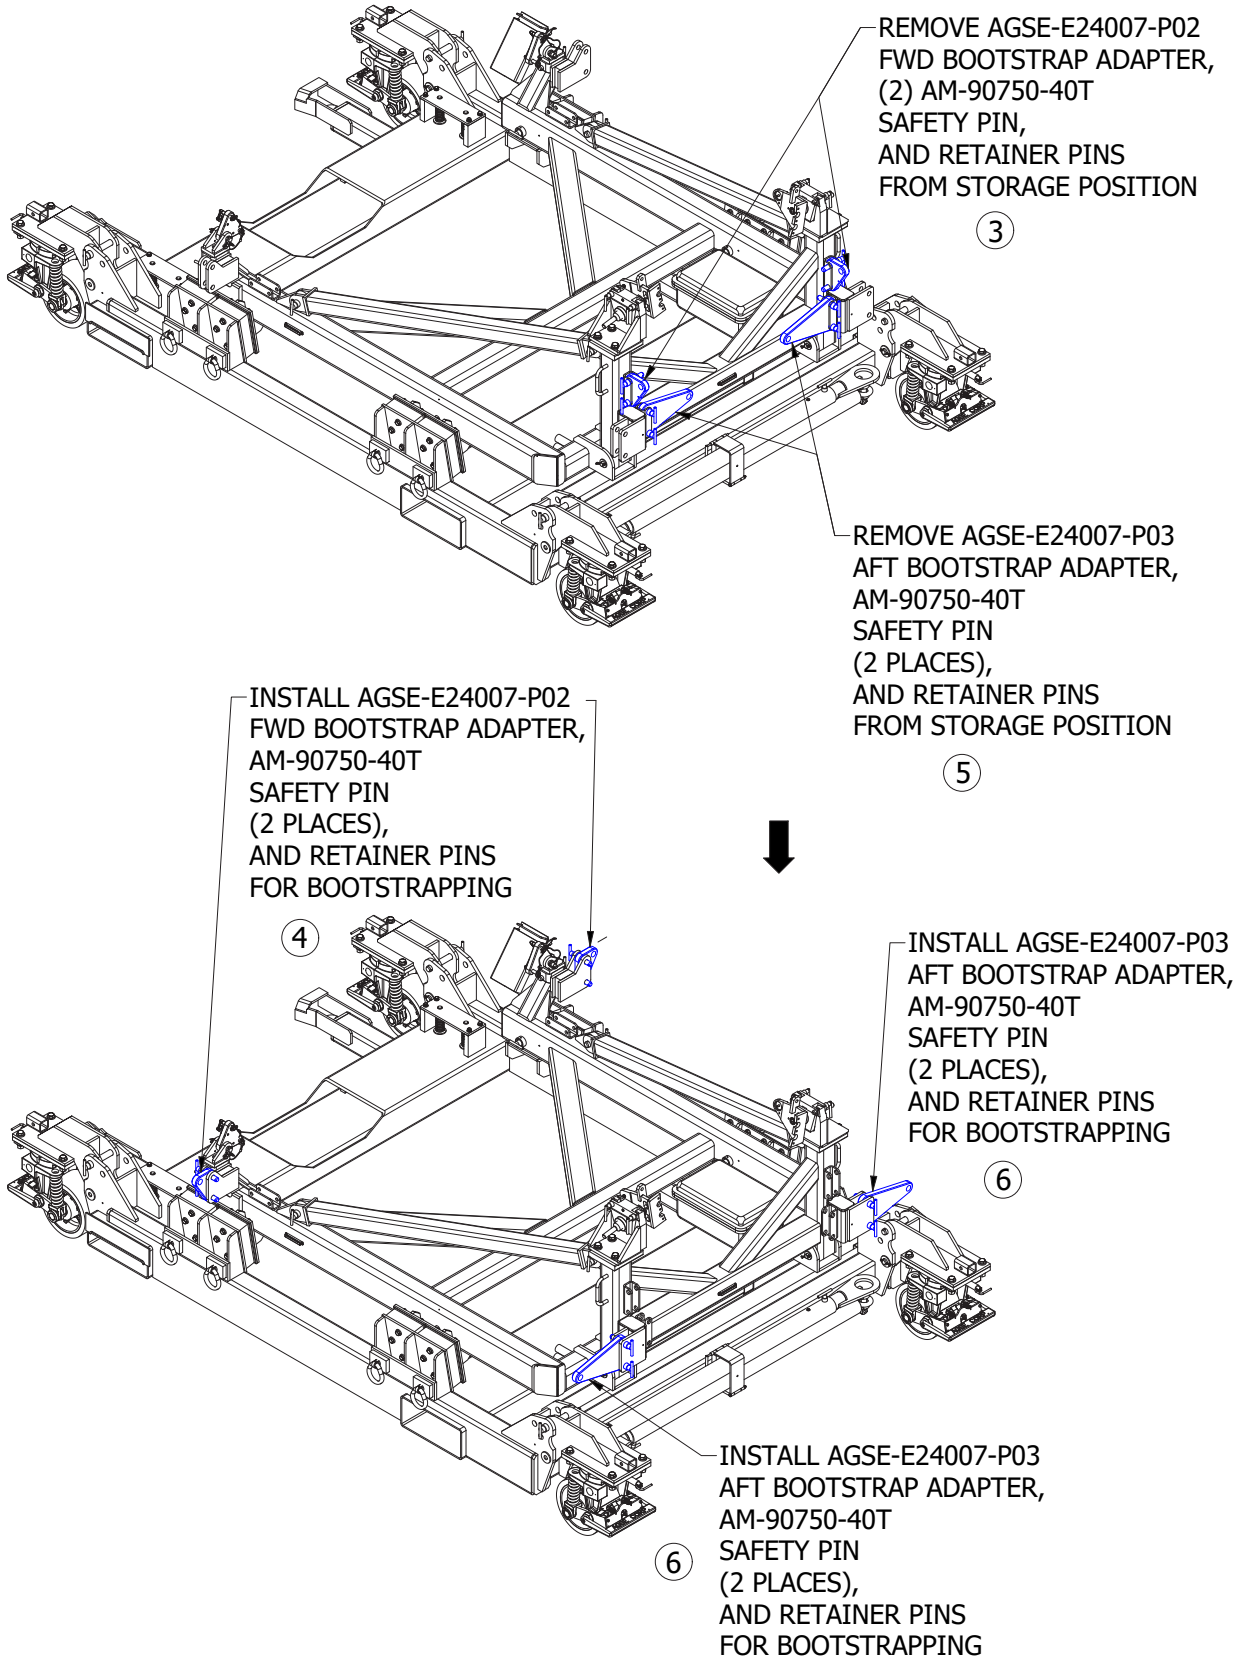

Figure 4.6-1
- 3). Remove two (2) AGSE-E24007-P02 FWD bootstrap adapters from their storage by removing four (4) AM-90750-40T safety pins and retainer pins.
- 4). Install two (2) FWD bootstrap adapters with four (4) safety pins and retainer pins on the FWD bootstrap mounts (Figure 4.6-1).
- 5). Remove the AGSE-E24007-P03 AFT bootstrap adapters (2) from their storage by removing four (4) AM-90750-40T safety pins and retainer pins.
- 6). Install AGSE-E24007-P03 (2) with safety pins (4) and retainer pins on the AFT bootstrap mounts (Figure 4.6-1).